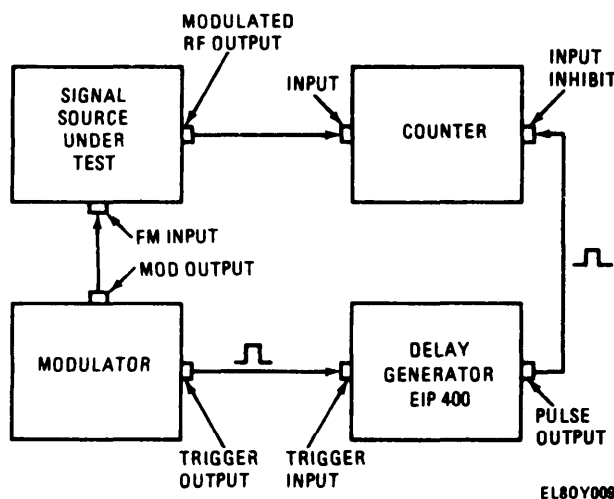

Figure 2-5. Time Varying Signal Measurement Test Setup
b. Measurement Technique. Fig. 2-5 shows a test setup designed to make measurements on time varying signals. It is similar to the pulse profile test setup, except that in this case, since there is always a signal present, a trigger must be obtained from the modulating source. This will trigger the pulse generator which controls the measurement.
b. Measurement Technique. The same test setup as shown in fig. 2-5 is required, with the trigger pulse synchronous with the sequence. In this measurement, the INPUT INHIBIT is used simply to discriminate between pulses. The enabling pulse can be slightly wider than the pulse to be measured. The counter will automatically restrict the measurement window entirely within the pulse. By shifting the delay time of the enabling pulse, each input pulse of the sequence can be separately measured.